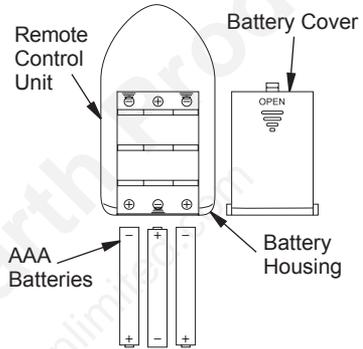

Figure 28 - Installing Battery in Hand-Held Remote Control Unit
1. Remove battery cover on back of remote control unit (see figure 28).